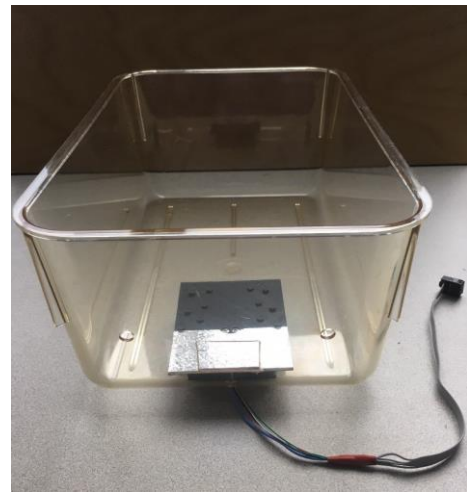

Fig.4.5
- Align the weighting stage on the floor of the home-cage, centered around the opening. Mark the mounting locations and drill four threaded holes (4-40) on the floor. Fix the weighting stage to the threaded holes using size 4-40 screws (Fig.4.5).